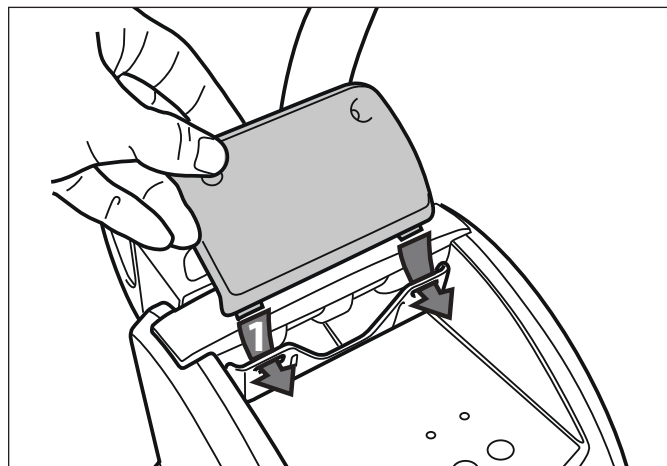

Figure 13. Position the Locking Plate Clips
2. Slide the locking plate clips into the control hook and line up the screw holes. Refer to Figure 13.